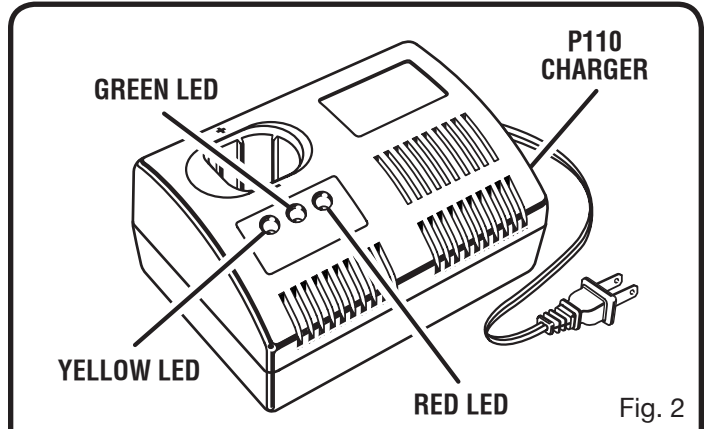

Fig. 2
- Place the battery pack in the charger aligning raised rib on the battery pack with the groove in the charger. See *Figures 2 - 3.*